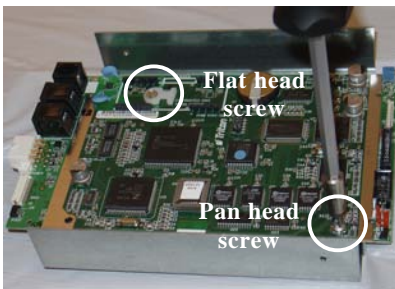
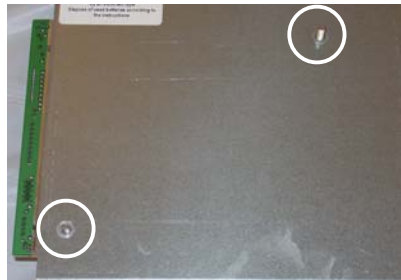

Figure 2-26. Screw locations.
Figure 2-27. Protruding screws.
- Two (2) screws need to be removed and replaced. Reference Figure 2-26. Remove the screw holding the Ty wrap clip and replace with the #8-32 - 1" Phillips flat head screw. Ty wrap clip remains on board. Second, remove the next screw and replace with the #8-32 - 3/4" Phillips pan head screw. Screws will protrude on backside of the panel (Figure 2-27).